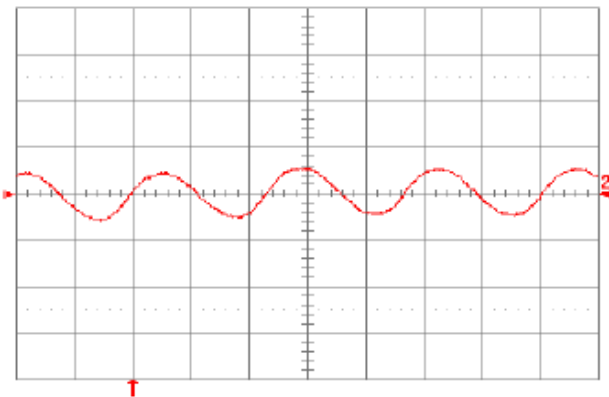

**Fig. 6.0V.17:** Output voltage vs. load current showing
**Fig. 6.0V.16:** Input reflected ripple current,  $i_s$  (10 mA/div.), measured through 10  $\mu H$  at the source at full rated load current and  $V_{in} = 48V$ . Refer to Fig. 6.0V.14 for test setup. Time scale: 1  $\mu s$ /div.